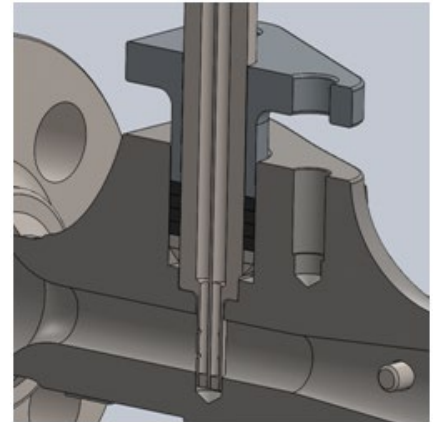

Figure 8. Final Packing Ring Installation
- Repeat for each remaining packing ring until all four are installed as shown (See Figure 8).